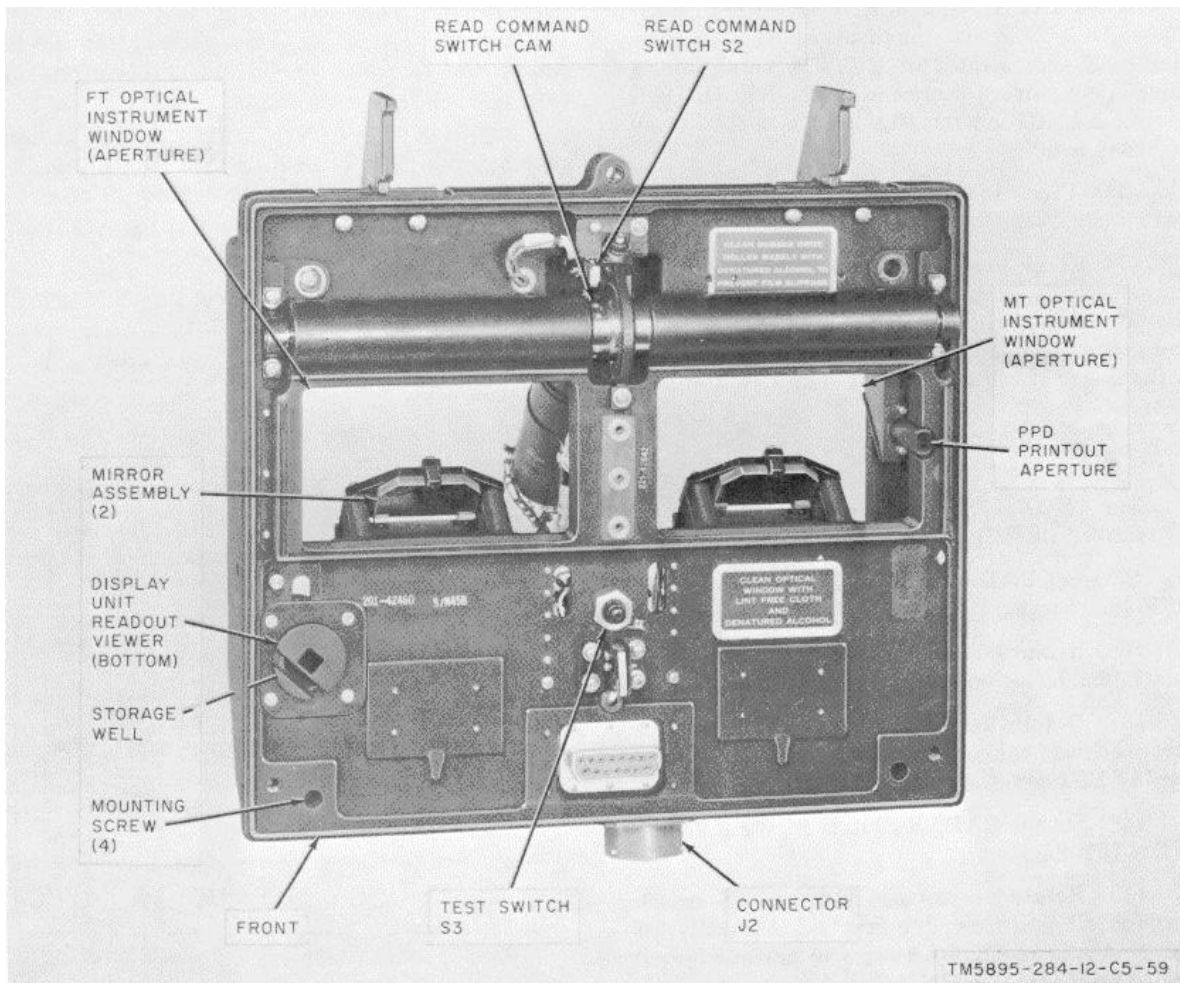

Figure 2-8. Five-inch film driver (RO-225A/APS-94A), top view.
View the data chamber in (22), (23), (25), and (27) below, by observing the images of the data chamber on the FT and MT mirror assemblies (fig. 2-8).
(1) Remove the 5-inch strip-film magazine from the 5-inch film driver.
(2) Remove the display unit readout viewer from the storage well in the 5-inch film driver (fig. 2-8) and place it in the viewing position over the ppd printout aperture at the right-hand side of the mt optical instrument window.
(3) Set the RADAR control NAV DATA switch to MAN.
(4) Turn the radar set on and set the RADAR control KNOTS GRD SPEED dial to 300.
(5) Set the RECORDER control RANGE switch to 25.
(6) Set the RECORDER control ANTENNA switch to LEFT.
(7) See that the aircraft compass system is on and operating.
(8) Set the Doppler navigator function selector switch to STBY.
(9) Rotate the Doppler navigator SET N-S switch clockwise or counterclockwise to slew the left-hand PRESENT POSITION-KM counter to indicate N888.0.
(10) Rotate the Doppler navigator SET E-W switch clockwise or counterclockwise to slew the right-hand PRESENT POSITION-KM counter to indicate E888.0.
(11) Depress test switch S3 (fig. 2-8) on the 5-inch film driver while observing the illuminated display readout through the viewer. The display should read 888 +10 for both upper and lower figures. They need not read the same.
(12) Rotate the Doppler navigator SET N-S and SET E-W switches to obtain PRESENT POSITION-KM counter displays of S888.0 and W888.0.
(13) Depress test switch S3 on the 5-inch film driver while observing the illuminated display readout through the viewer. The display should read -888 -10 for both upper and lower figures. Verify that both minus signs are illuminated.
(14) Rotate the Doppler navigator SET N-S and SET E-W switches to slew both PRESENT POSITION-KM counters to 000.0.
(15) Depress test switch S3 on the 5-inch film driver while observing the illuminated display readout through the viewer. The display should read 000 ±10 for both upper and lower figures.
(16) Remove the viewer and observe the mt trace through the mt optical instrument window. It may be necessary to use a dark cloth to see the trace in daylight. Visually examine the left end of the trace for a segment that brightens for approximately one-half second once every 35 seconds (approximately). This is the fiducial mark.
(17) Repeat (16) above while observing the ft trace.
(18) Replace the viewer in the storage well and secure with the four screws.
(19) Replace the 5-inch strip-film magazine on the 5-inch film driver.